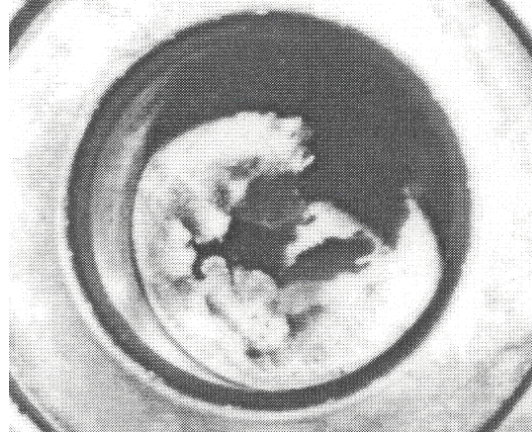

Fig. 9-17 Excessive flash indicates that an extra thick casting is being made and is a potential safety hazard from die spitting.
**Excessive Flash.** Excessive flash results from material such as flash sticking to the die faces and holding the die open, excessive injection pressure or speed, or insufficient clamping force. The first problem is corrected by cleaning the die faces. Flash that has become embedded into the die face must be scraped off. Corrections to injection speed and pressure must be made by adjusting the appropriate hydraulic valves. Adjusting the tie bar nuts increases the clamping force. Very slight adjustments to these nuts are usually all that is required. Flash indicates that an extra thick casting is being made. Extra thickness causes extra heat input to the die, and may result in additional problems. Fig. 9-17 illustrates various cases of excessive flash.